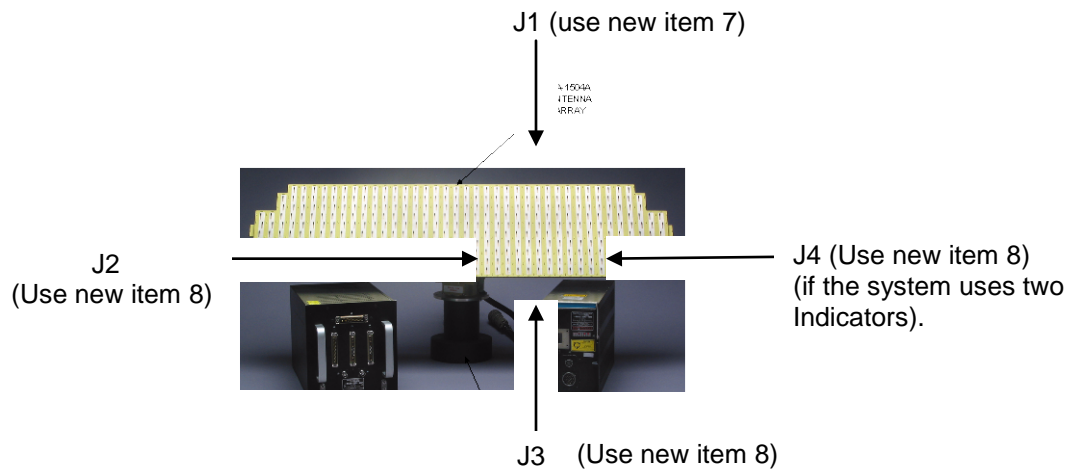

Figure 7. Front Panel
13. On the system cables, replace the existing plastic cable hoods with metal hoods. Follow the instructions shown in Figure 7. The plastic hood is removed by unfastening four (4) screws.
14. The system cables shall be over-braded with shielding that has 90% coverage. This shielding shall extend to and attach to the metal hoods of the connectors. Splicing of the shield shall have an overlap or one (1) inch minimum.